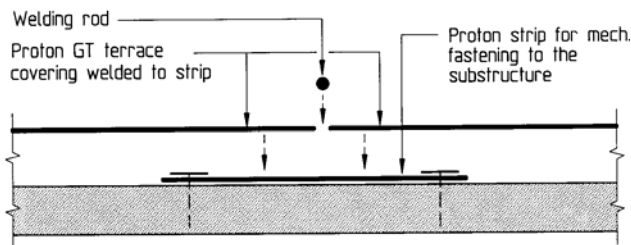

Fig. 7
Protan GT is a waterproofing membrane primarily intended for use on terraces with pedestrian traffic. Protan GT is mechanically fastened as shown in Fig. 7.
2) Welded joint according to Figure 7
Necessary ballast is calculated according to NBI Building Research Design Sheet 544.202 and "TPF Informs No. 3". Protan GT shall be mechanically fastened as shown in Fig. 7, or may, under certain conditions, be glued to the underlay.